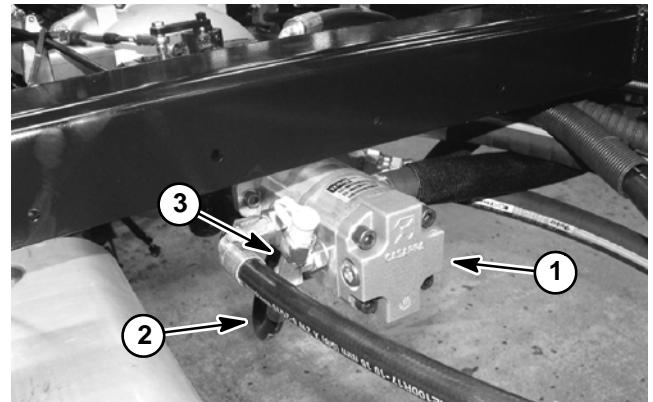

Figure 35
3. Thoroughly clean test port on tee fitting on left side of rear gear pump section (Fig. 35). Install 5000 PSI (350 bar) pressure gauge to test port fitting.